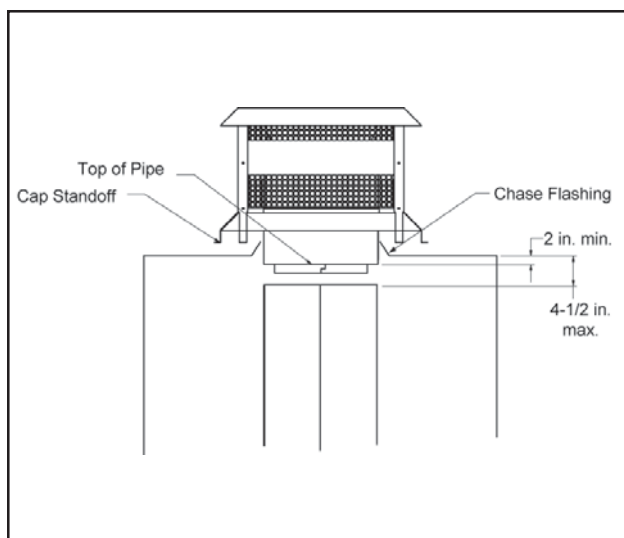

Figure 24 - Installing an ST375 Square Termination Cap
- c. For installations utilizing an ST375 square termination cap the last chimney section must not be more than 4-1/2 in. below the chase top. See Figure 24.